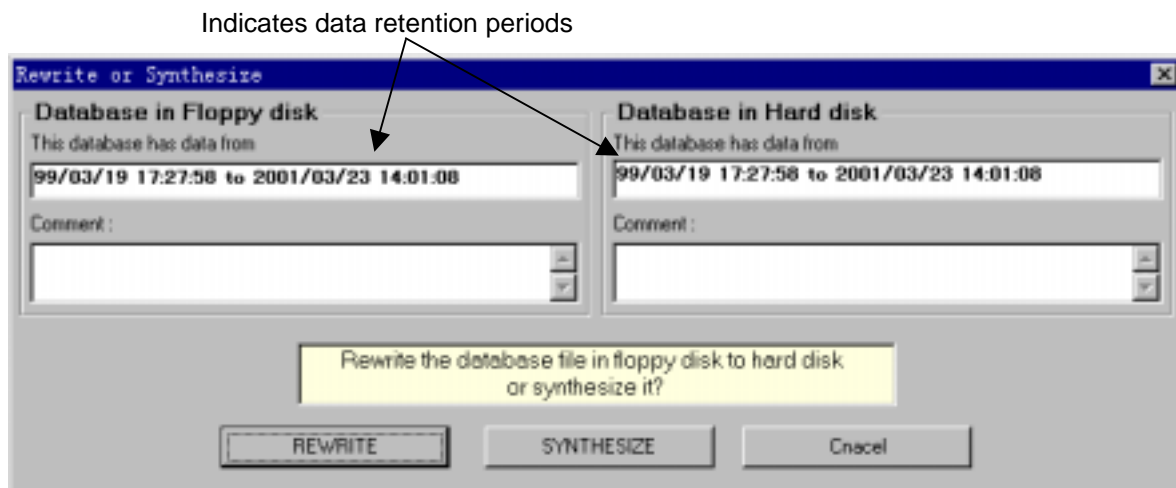

Figure 8-26: Database File Revision Selection Screen
This button loads a database file from a floppy disk and either rewrites the same file on the hard disk or adds it to the hard disk. In the event of damage or loss of the database file (Ras.mdb), this function can be used to restore the file, provided that the file had periodically (e.g., once a week or once a month) been backed up to a floppy disk, using Step (8) above. When completely rewriting an existing database file from a floppy disk, select the [REWRITE] button in **Figure 8-26**. When adding an FD file to a file on the hard disk, select the [SYNTHESIZE] button.